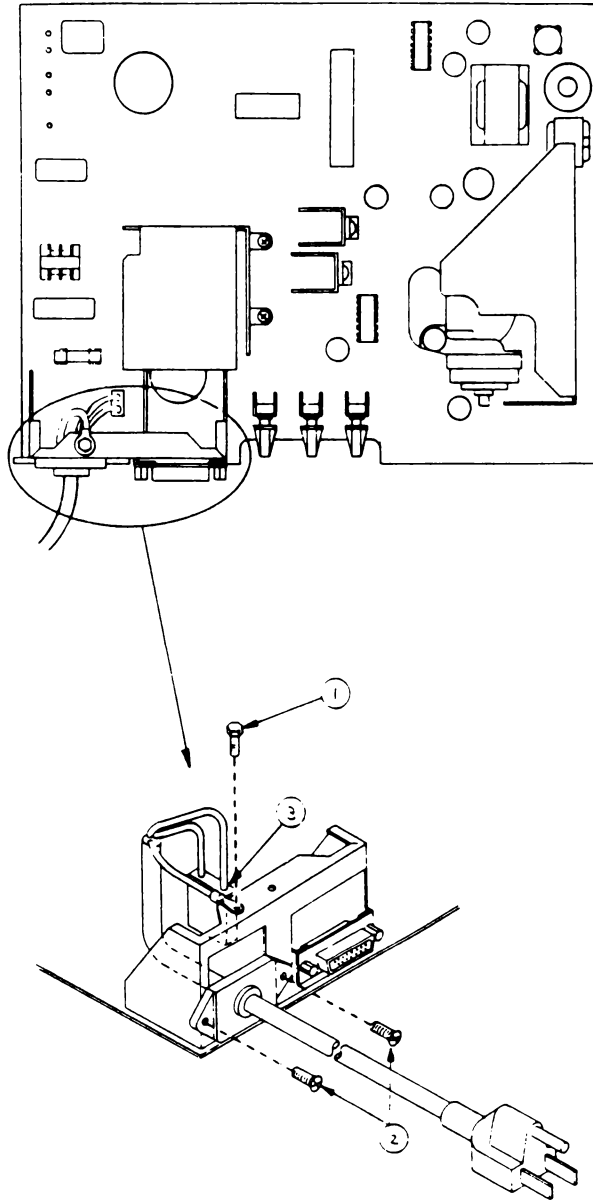

FIGURE 11
3. Unscrew the two screws securing the AC cord to its metal bracket (Figure 11, #2).
4. Remove the bolt and lockwasher that secure the power cable's green ground wire to the metal chassis (Figure 11, #1) Remove the yellow and green wire next to it as well.
5. Disconnect the AC connector from the main logic board (Figure 11, #3).
1. Install the two screws that mount the AC cord receptacle to its metal bracket (Figure 11, #2).
2. Install the bolt and lockwasher that secure the power cable's green ground wire to the metal chassis (Figure 11, #1).
3. Connect the connector labelled "AC" to the main logic board (Figure 11, #3).